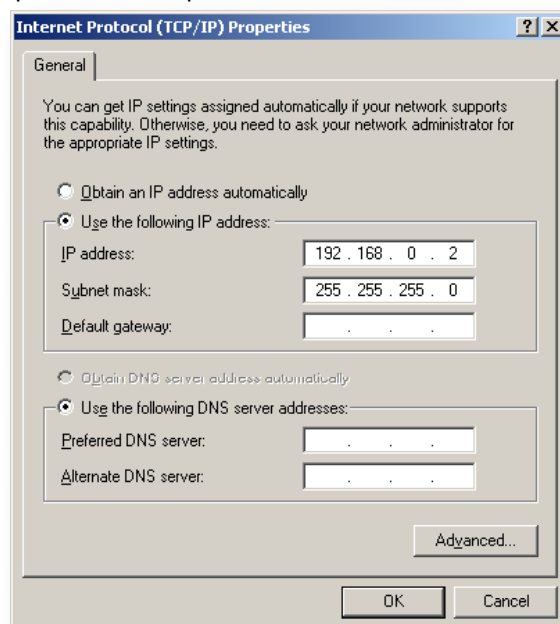

Fig. A-6 Setting an IP address
4. Select the Internet Protocol Version 4 entry and click Properties. The screen shown in Fig. A-6 then appears. Select Use the following IP address as shown and enter 192.168.0.2 as the IP address for your computer as specified. The specified subnet mask will be filled in automatically.